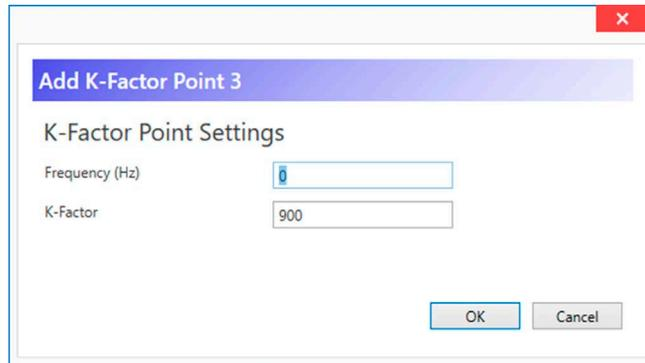

Figure 7.7—Add K-Factor Point dialog
- Add Point. Presents a dialog for defining the K-factor at a specified frequency (Figure 7.7, page 67).